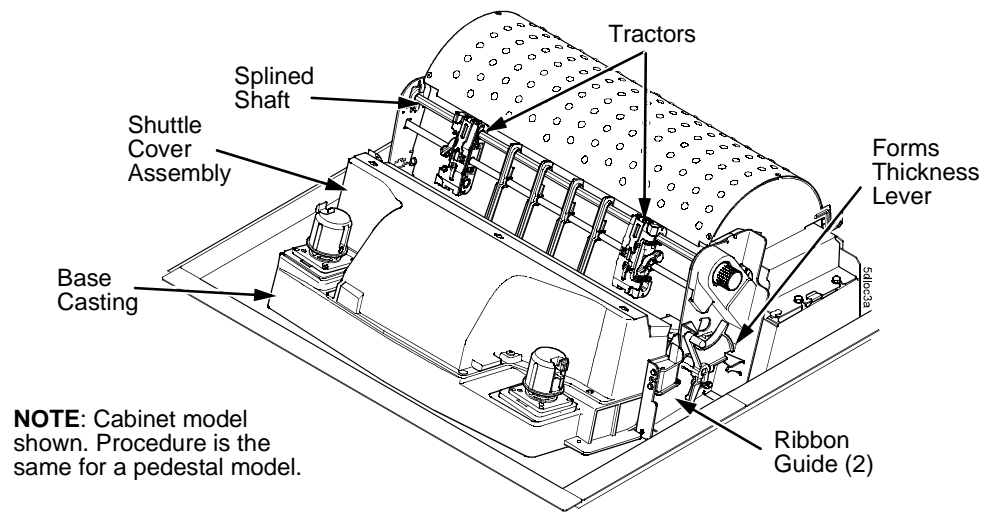

Figure 66. This figure shows where to clean inside the cabinet or top cover.
6. Using a soft-bristled, non-metallic brush, wipe paper dust and ribbon lint off the tractors, shuttle cover assembly, base casting, and ribbon guides. Vacuum up the residue. (See Figure 66.)